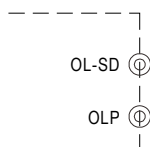

Fig. 5.1 Remove the CN3
- (1) Remove the shorting connector on CN3 that is shown in Fig 5.1, the O.L.P. mode will be "continuous constant current limiting".